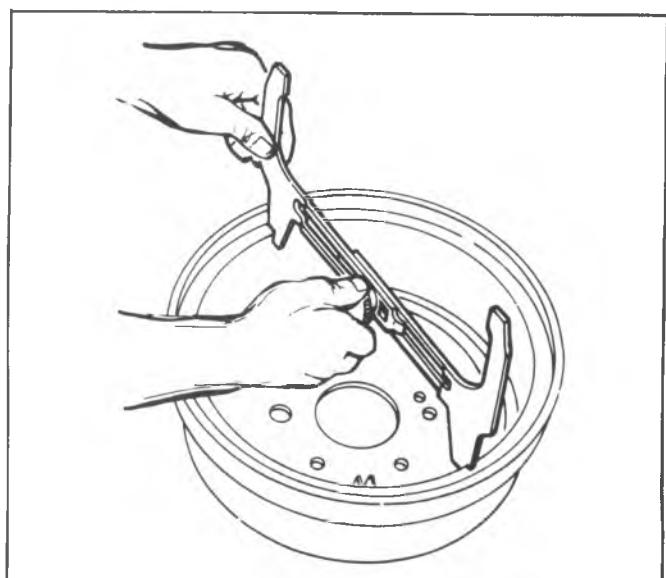
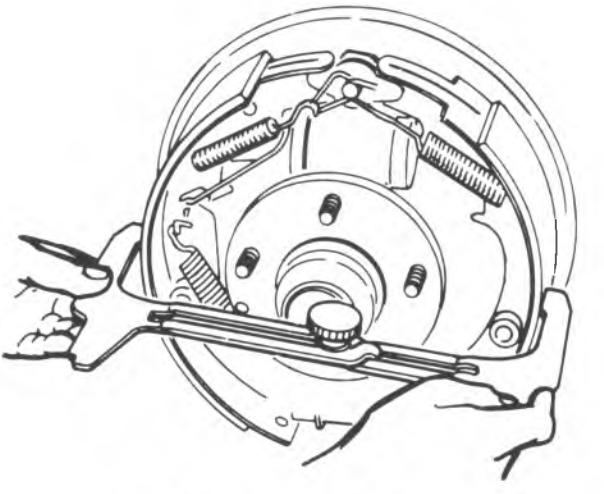

Fig. 5-45-Measuring Brake Drum I.D.
Fig. 5-46-Adjusting Brake Shoes
8. Measure brake drum I.D. using inside caliper portion of Tool J-21177 (fig. 5-45). Adjust brake shoes to dimension obtained on outside caliper portion of Tool J-21177 (fig. 5-46).
9. Measure brake drum I.D. using inside caliper portion of Tool J-21177. Adjust brake shoes to dimension obtained on outside caliper portion of Tool J-21177 (figs. 5-45 and 5-46).